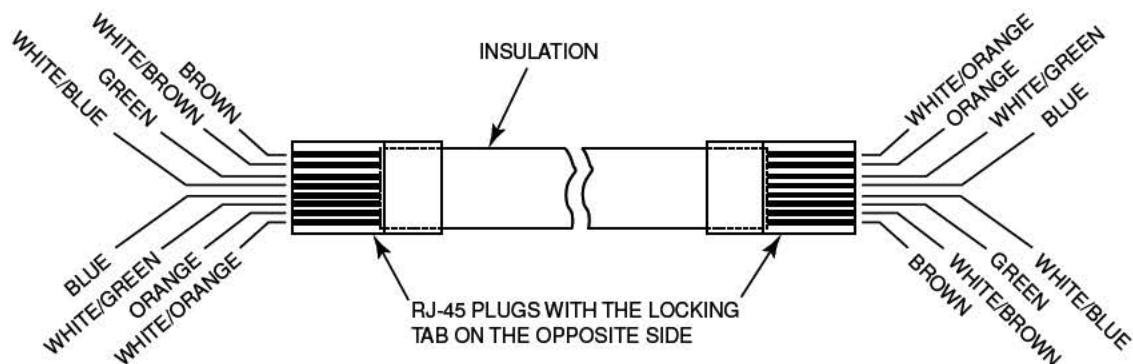

FIGURE 3-2
- Step 3. Untwist each pair no more than 1 cm and lay them flat together pinched between your fingers in the following order according to figure 3-2.